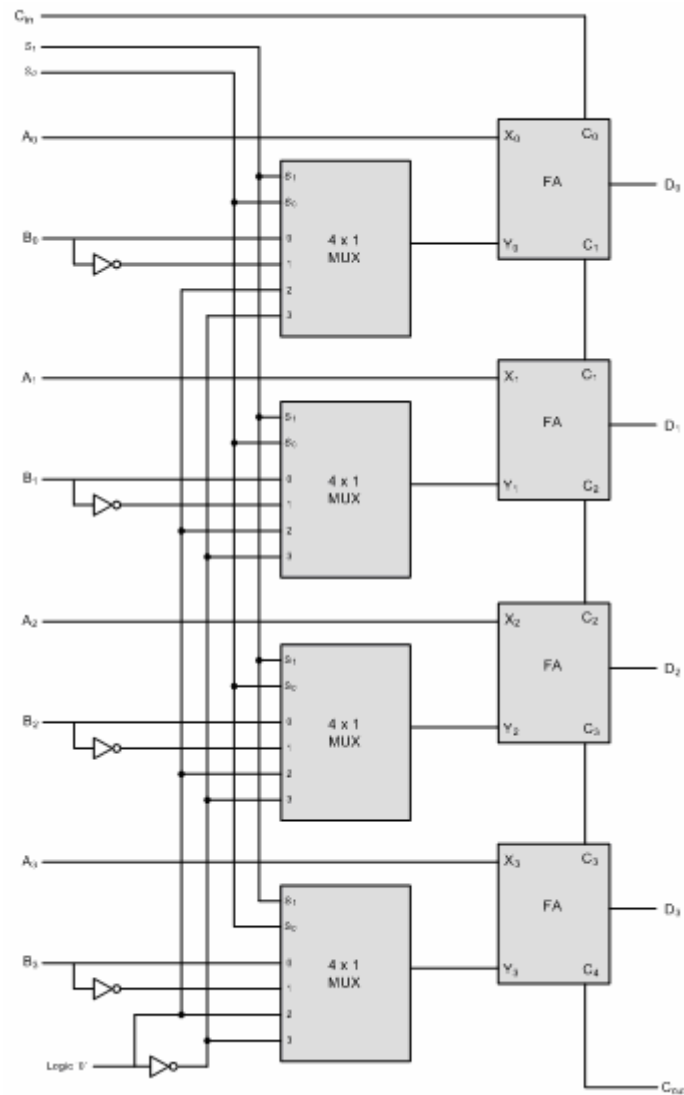

Figure 5-1 : Circuit diagram of the 4-bit arithmetic circuit
The arithmetic circuit performs typical arithmetic operations such as addition, subtraction and increment or decrement by one. The basic component of an arithmetic circuit is the Full adder. By using a multiplexer to control the data inputs to the adder, it is possible to obtain different types of arithmetic operations. In this experiment we will implement a 4-bit arithmetic circuit, its logic diagram is shown in Figure 5-1. The four multiplexers select either B, B', 0 or 1 for the Y inputs of the full adder. Depending on the selection inputs and the input carry, the arithmetic circuit can generate the eight arithmetic micro operations listed in Table 5-1.
3. Derive the wiring diagram for the logic diagram shown in Figure 5-1.